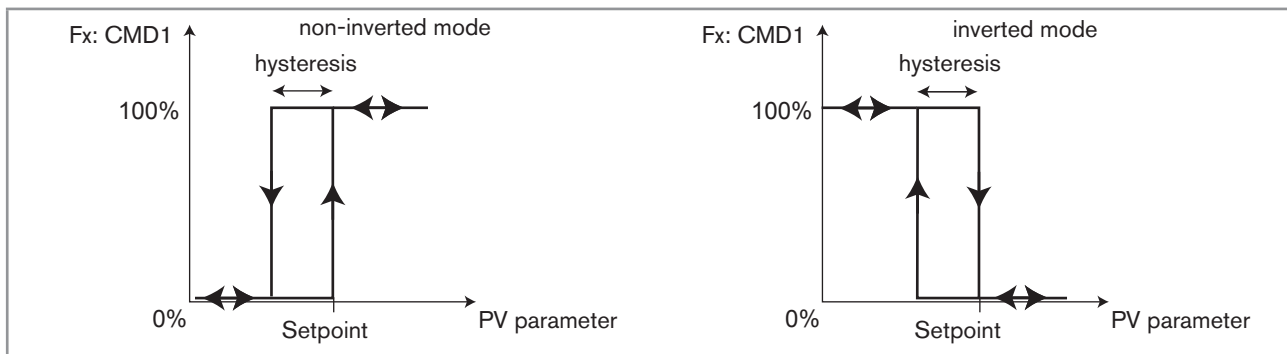

Fig. 34: Hysteresis mode, non-inverted and inverted
**INVERSION:** Used to invert (choose "ON") or not (choose "OFF") the operating direction of switching. See Fig. 34: *Hysteresis mode, non-inverted and inverted.*